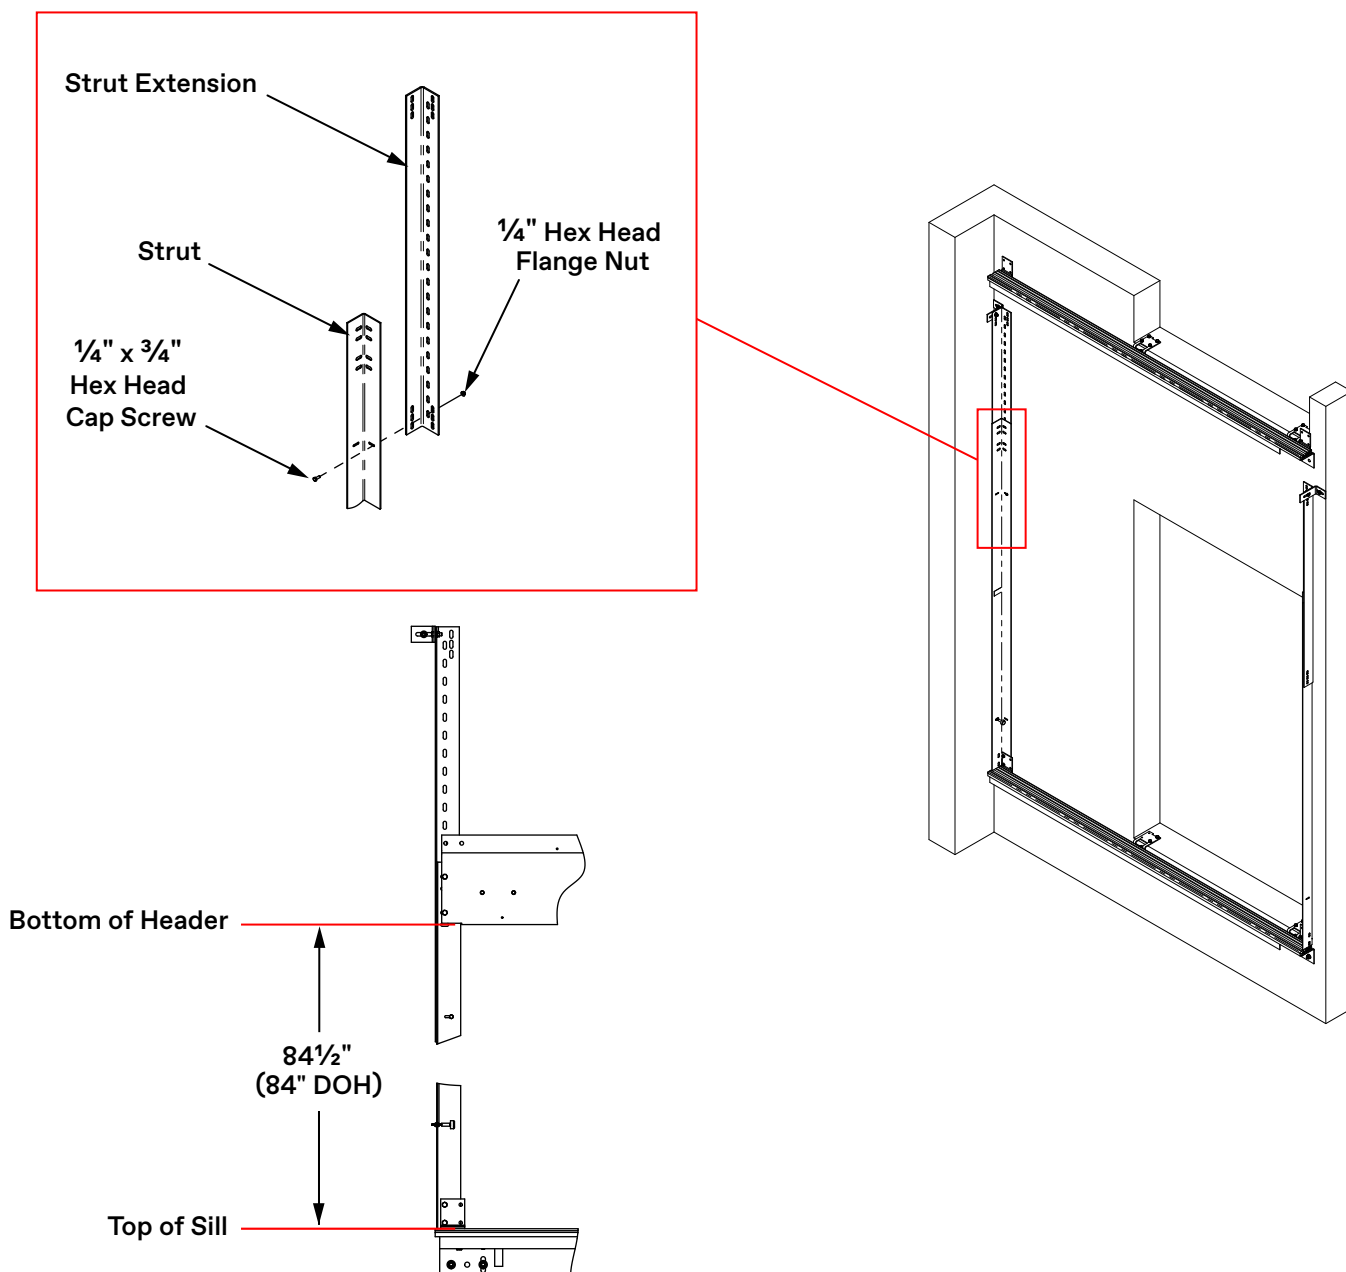

Figure 22 - Mount Header on the Struts
1. From the sill, measure the header height given in Figure 22, and mark the strut. Repeat for the other side.